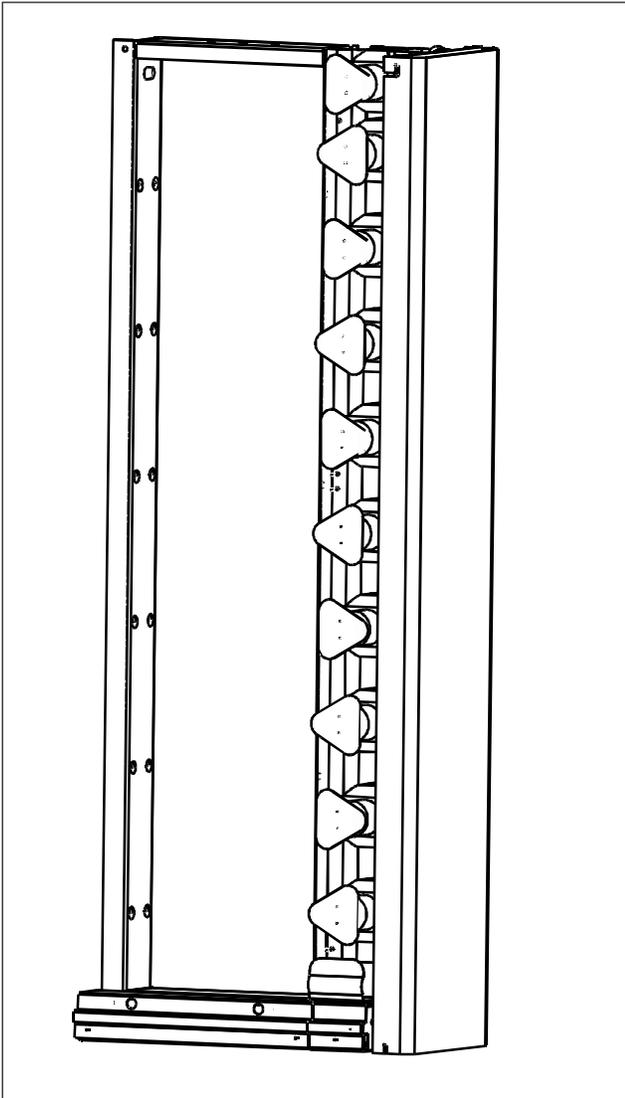

Figure 5
6.2 Reattach endcap cover to base and tighten mounting screws (Figure 5).